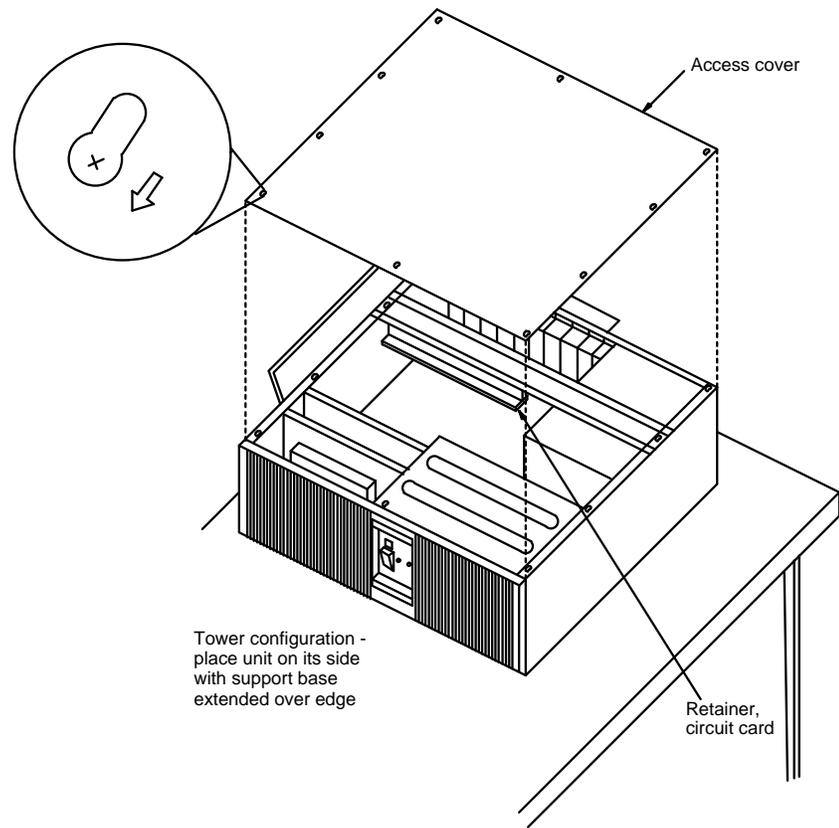

Figure 2-2. Removing the Card Cage Access Cover
Use a Phillips #2 screwdriver to remove the left access panel in order to reach the circuit card cage as follows (see Figure 2-2):
- b. If you do not have cables attached to the MAP/40 or currently have it placed on a table: Place the MAP/40 (tower configuration) on its side with the support base over the edge of the table. See Figure 2-2.